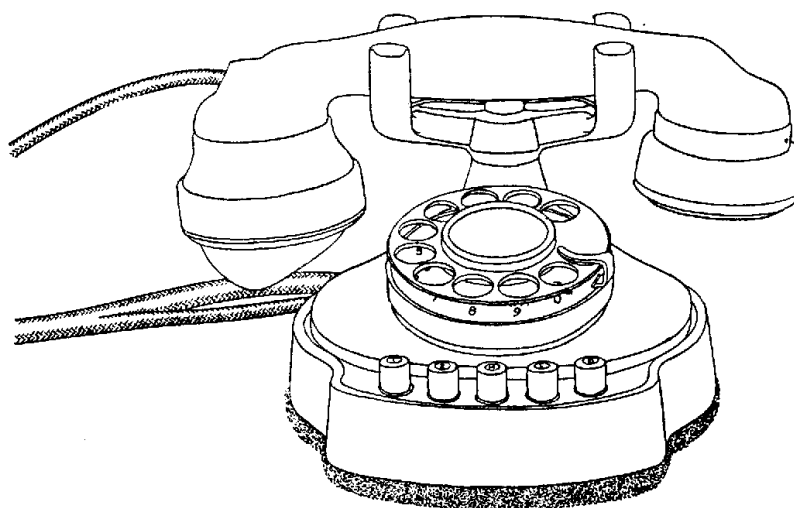

Fig. 4—Key Station Hand Telephone Set.
3.01 At key stations with hand telephone sets, five control keys are mounted in the base of the hand set mounting, as illustrated in Fig. 4, and consist of line keys 1 and 2, the holding key, the intercommunicating key and the buzzer key in the order named from left to right. The same hand telephone set is used with both the 15A and the 23A key equipments. For use with the 15A key equipment the unused line key may be permanently locked to prevent its operation.